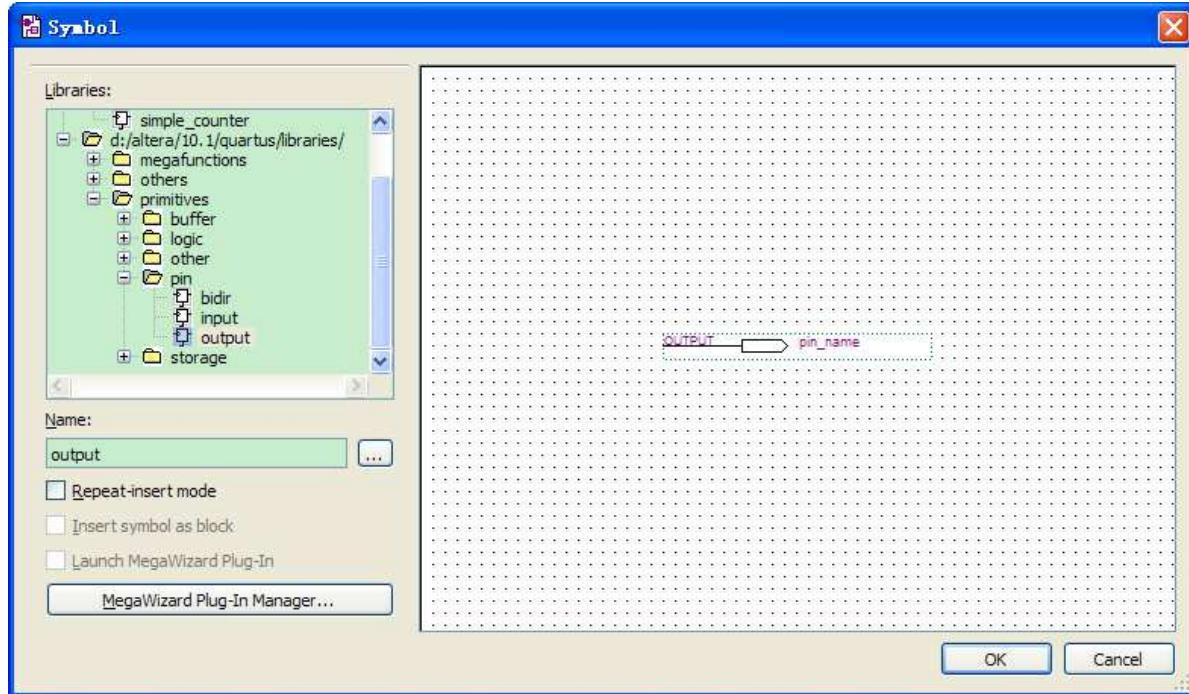

Figure 6-38 Choose output pin
- Under Libraries, select quartus/libraries > primitives > pin >output, as shown in **Figure 6-38**.